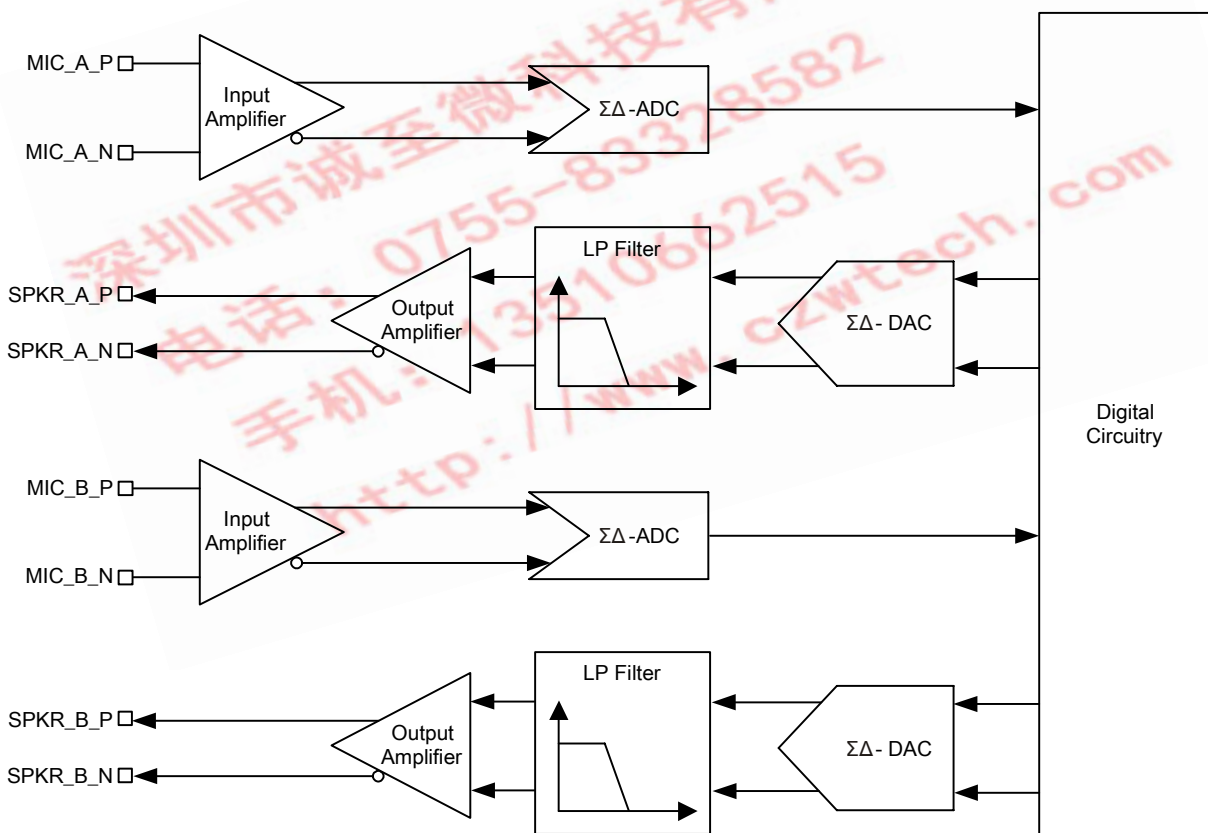

Figure 10.2: Stereo Codec Audio Input and Output Stages
- Two second-order Sigma Delta converters allowing two separate channels that are identical in functionality, as shown in Figure 10.2.